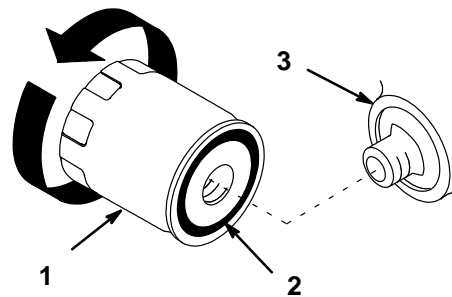

Figure 18
2. Remove the old filter and wipe the filter adapter (Fig. 18) gasket surface.
4. Apply a thin coat of new oil to the rubber gasket on the replacement filter (Fig. 18).
5. Install the replacement oil filter to the filter adapter. Turn the oil filter clockwise until the rubber gasket contacts the filter adapter, then tighten the filter an additional 1/2 turn (Fig. 18).